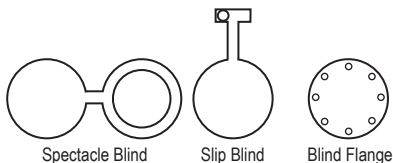

Figure 4. Types of Blinds
- Types of blinds are shown below in Figure 4.